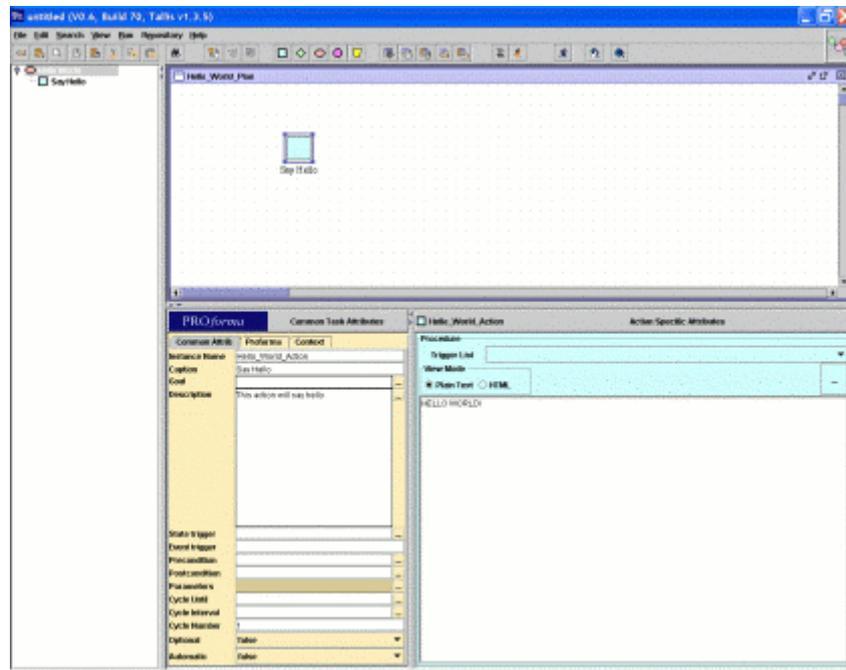

Figure 7: The attributes have been set for the *Hello_World_Action* action of the *Hello_World* plan
6. Finally, in the Procedure field (a specific attribute of "action" tasks) enter the text "HELLO WORLD!" (see Figure 7).